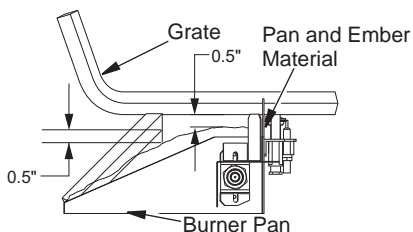

Figure 24 - Pan and Ember Material Clearances
4. Place just enough to cover entire surface and leave about a 1/2" gap under lower grate members to allow air to flow (see Figure 24, page 15).